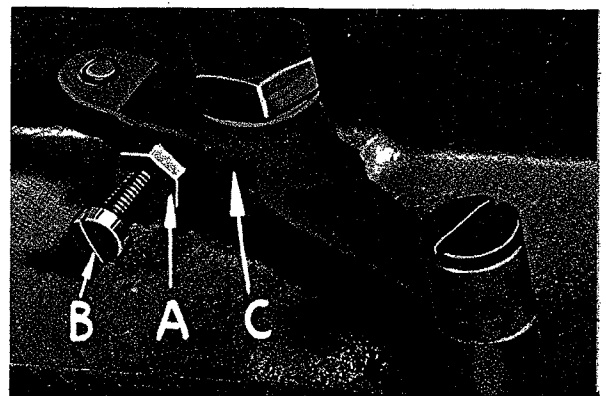
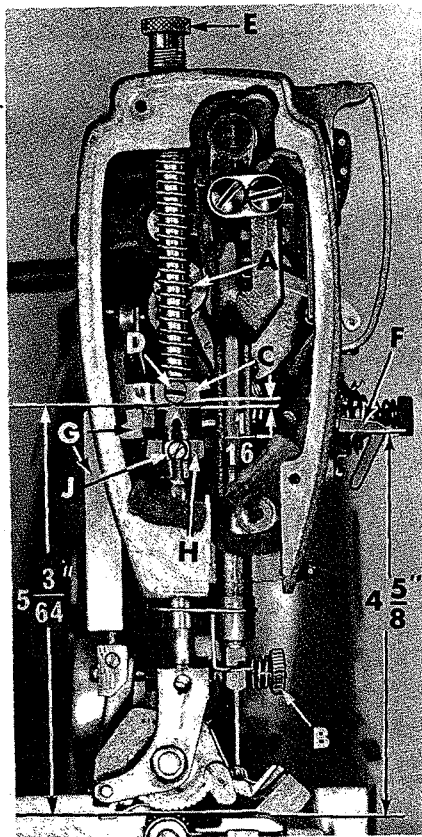

Fig. 16
Fig. 17
The presser spring (A, Fig. 17) should exert only enough pressure on the feed rollers to make the work feed uniformly. To increase the pressure on the presser foot, turn presser spring regulator (B, Fig. 17) in a clockwise direction. Turning the regulator counterclockwise decreases the pressure.
When locating presser bar guide (C, Fig. 17) presser foot must rest directly against throat plate. Proper setting of guide is $5 \frac{3}{64}$ inches between underside of presser bar guide and the top of throat plate (Fig. 17). To obtain this setting, remove pressure from presser spring (A) and loosen set screw (D). Tap on presser foot to insure it is down against throat plate. Set guide to the $5 \frac{3}{64}$ inch dimension, center foot by turning it so needle enters the middle of its slot and retighten screw (D). Apply pressure to top feed roller by turning regulator (E) clockwise.
Set needle thread pull-up bracket (F) so that underside of wire is $4 \frac{5}{8}$ inches above throat plate (Fig. 17).
Presser bar connection (G, Fig. 17) should be set about $1/16$ inch below presser bar guide (C). Accomplish this by loosening lock nut (A, Fig. 16), and relocating stop screw (B) on lifter lever bell crank (C), located at the back of machine, under bed plate. Turning stop screw to right or left, properly sets presser bar connection. Tighten lock nut (A) to lock stop screw.
Tension release should be set so as not to release when sewing over seams or when presser foot is raised. Adjustment of tension release cam (H, Fig. 17) and in and out position of tension assembly are required for proper operation.
The tension release cam (H, Fig. 17) should now be positioned by loosening set screw (J) and then raising or lowering cam (H) to suit the sewing conditions. The average release point is between $1/4$ and $5/16$ inch of presser foot lift above the throat plate. Tighten tension release cam set screw securely.